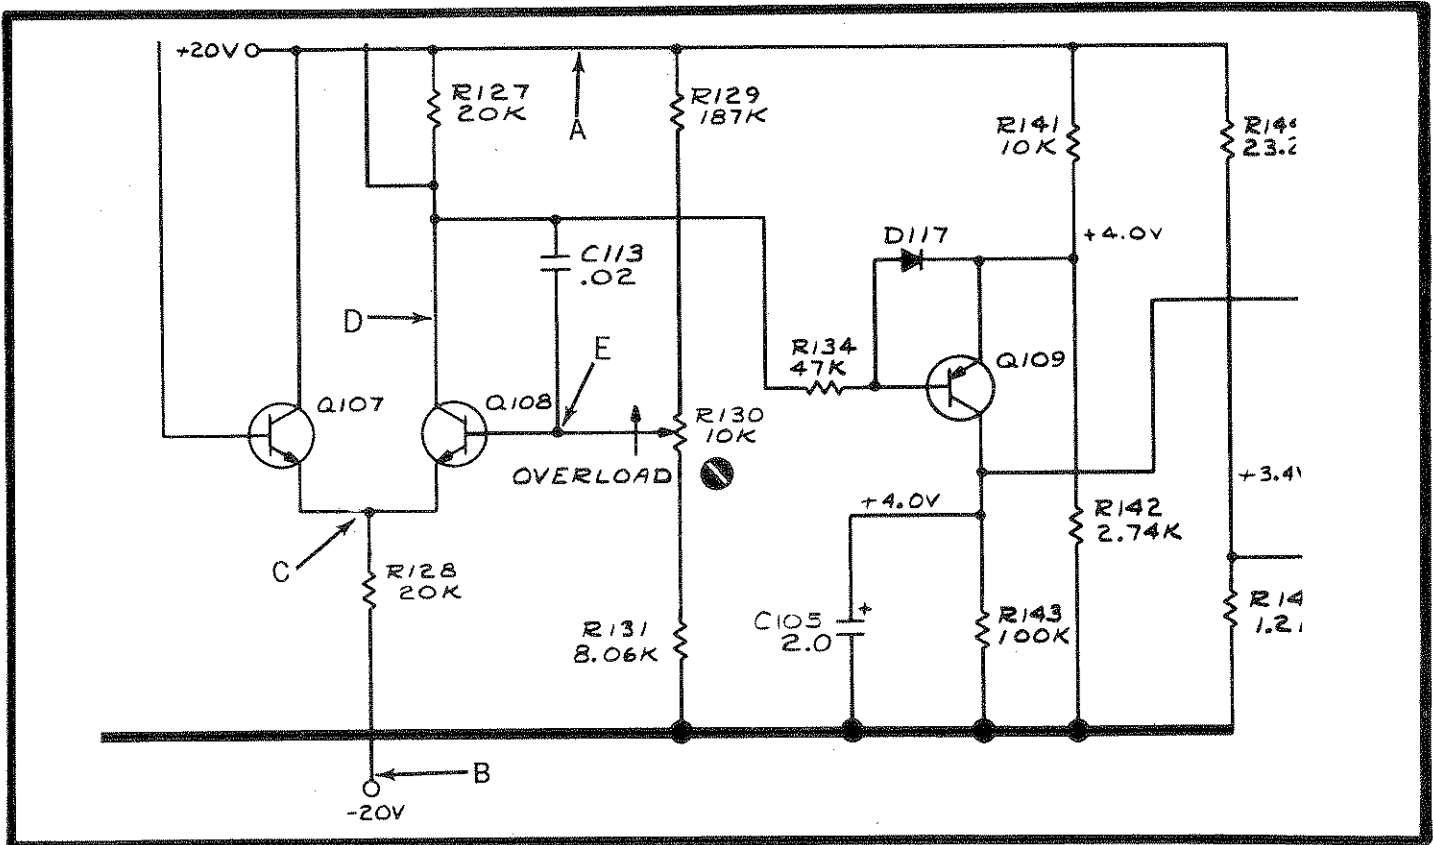

FIGURE 11. Voltage Points within Current Limit Circuit. Refer to Table 8 for values which depend upon the voltage at Points A and B.
These values were measured with the Model 153 to $\pm 15\%$. The Voltage Dials are set to 0000 and the POLARITY Switch to -. Voltages at points C, D and E depend on both zener voltages (D107 and D108). Zener Voltages range between 15 and 22 volts. The points C, D and E are indicated in Figure 11.
d. Voltages within the current limit amplifier vary considerably, depending upon the voltage across zener diodes D107 and D108. Nominally, the voltage at point A is +20 volts and at point B is -20 volts. Table 7 gives the approximate range for points C, D and E in Figure 11 for voltages within the limits of the zener if the instrument is working properly.